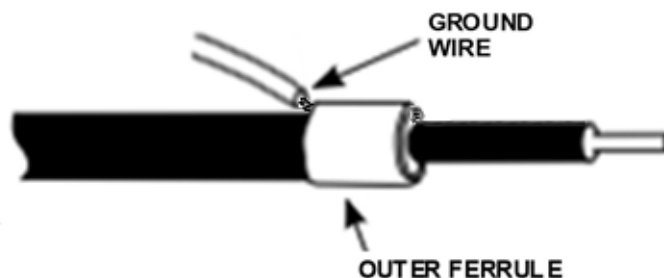

Figure 5 - Inserting the conductor ground wire
- f. Cut the size 20 insulated ground wire to length required for termination to a ground plane and strip the insulation from the conductor with an AS5768 wire insulation strip tool. Expose the conductor length beyond the shield termination to approximately 0.40 inch (10.2 mm). Slide the outer ferrule over the shield and insert the ground wire conductor under the outer ferrule in front or behind the outer ferrule as shown in Figure 5. Inserting the ground wire behind the termination is the preferred way when the cable is being connected to a contact to prevent the ground wire from interfering with the insertion and extraction of the contact from the connector.